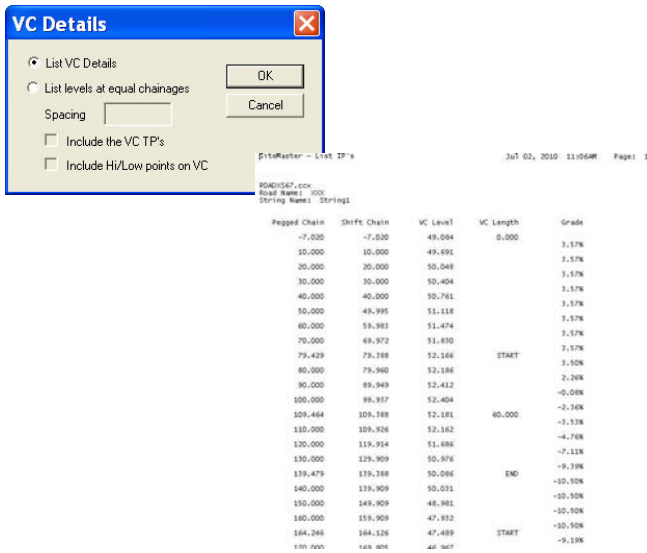

Figure 18-43. Create a VC Report
2. The **VC Details** dialog box appears (Figure 18-43 on page 18-49).
- List VC Details – select this option to list the VC details in a simple report as shown in Figure 18-43.